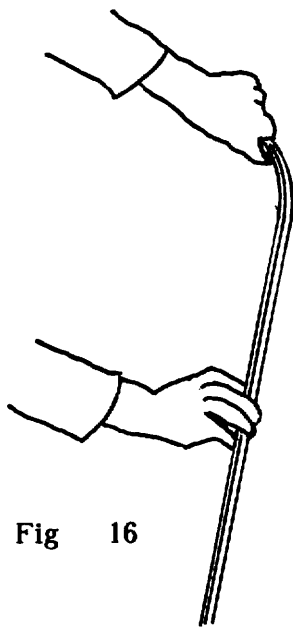
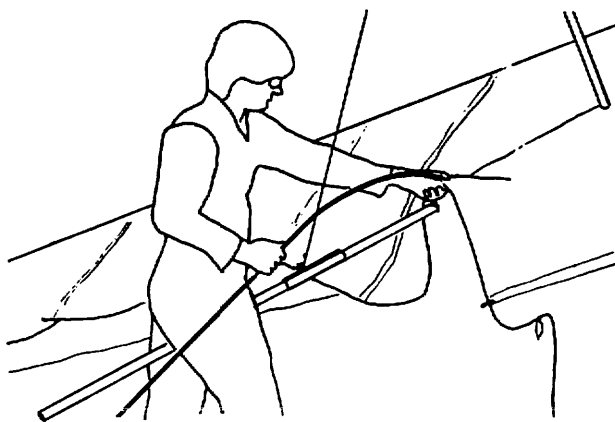

Fig 16
Fig 17
10) Remove the battens from the bag, lay them on the ground, and check them for symmetry, side to side. (Fig 16) Correct any that are asymmetric. (See the tuning and maintenance sections of this manual for more information on batten shaping.) Separate the right side battens (those with black tips) from the left side battens (white). Insert the top surface battens into the sail. Order of battens is longest to shortest from the root out to the tip. Wills Wing numbers battens from the tip inboard, so that the shortest batten (which is the straight plug on batten), is the number one batten, and the longest batten is the #8 batten. When inserting the number 8 battens, you should lift the rear end of the keel and hold it up so that the batten slides in more easily without the rear end scraping the ground. (Fig 17)